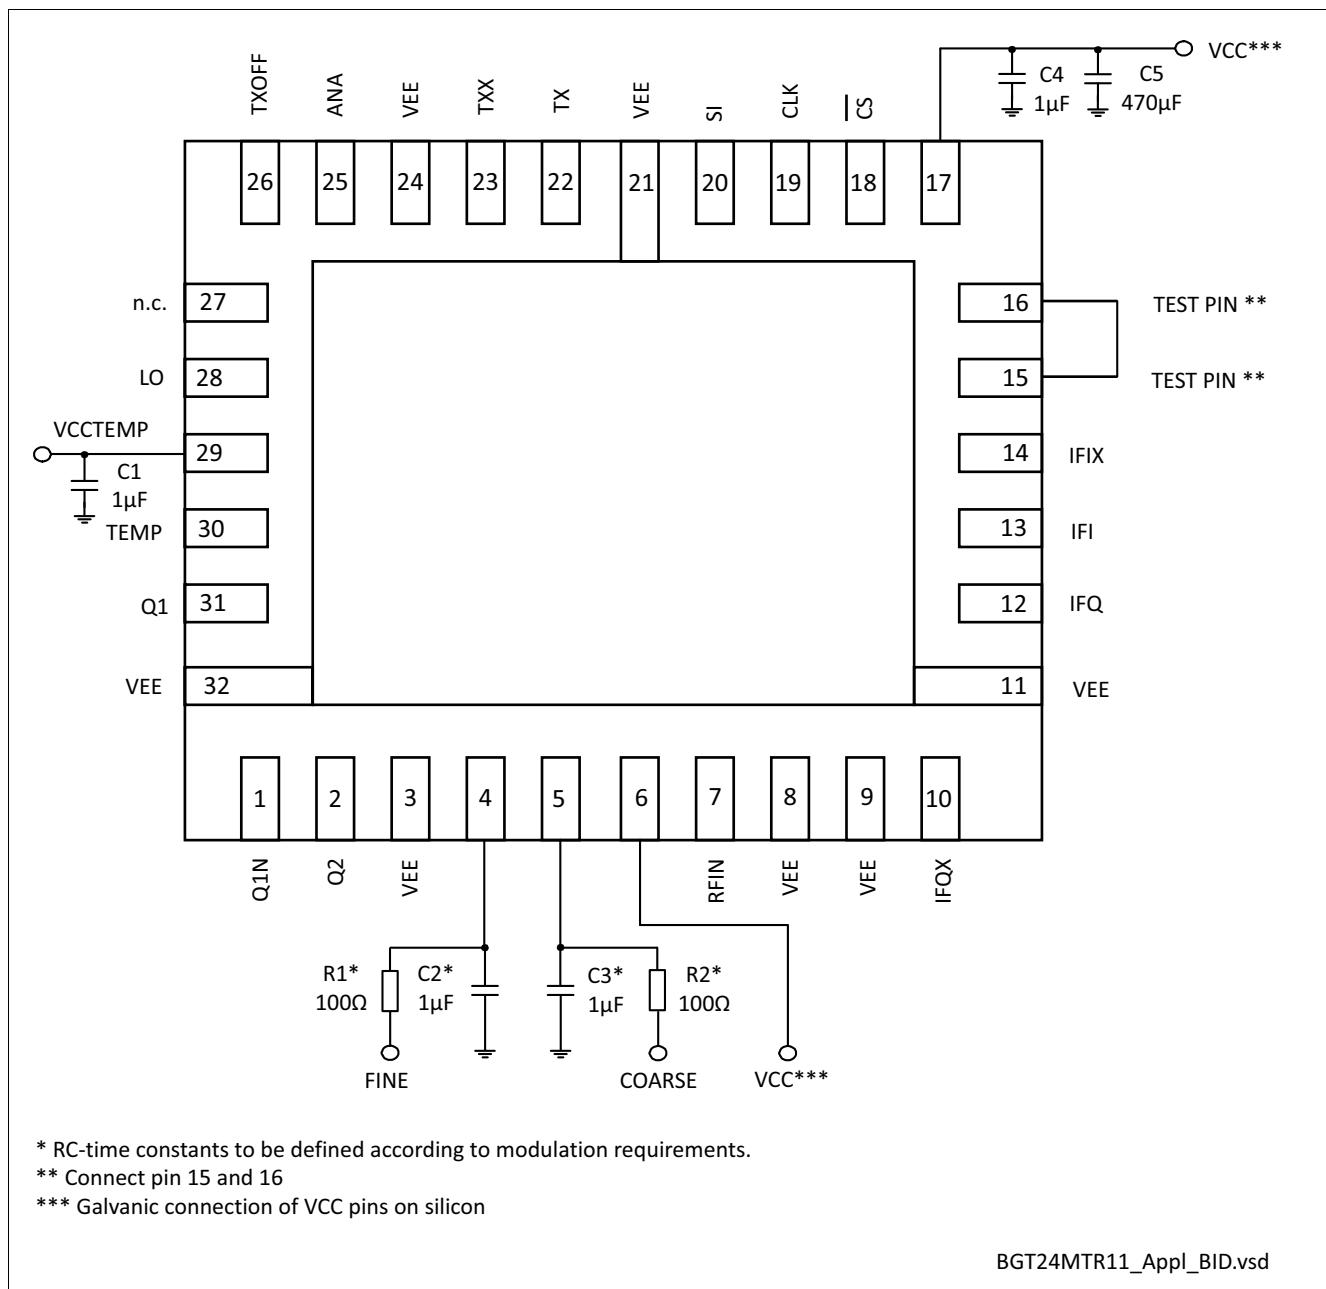

Figure 2 Application Circuit with Chip Outline (Top View)
1) Performance based on application circuit in Figure 2 on Page 15